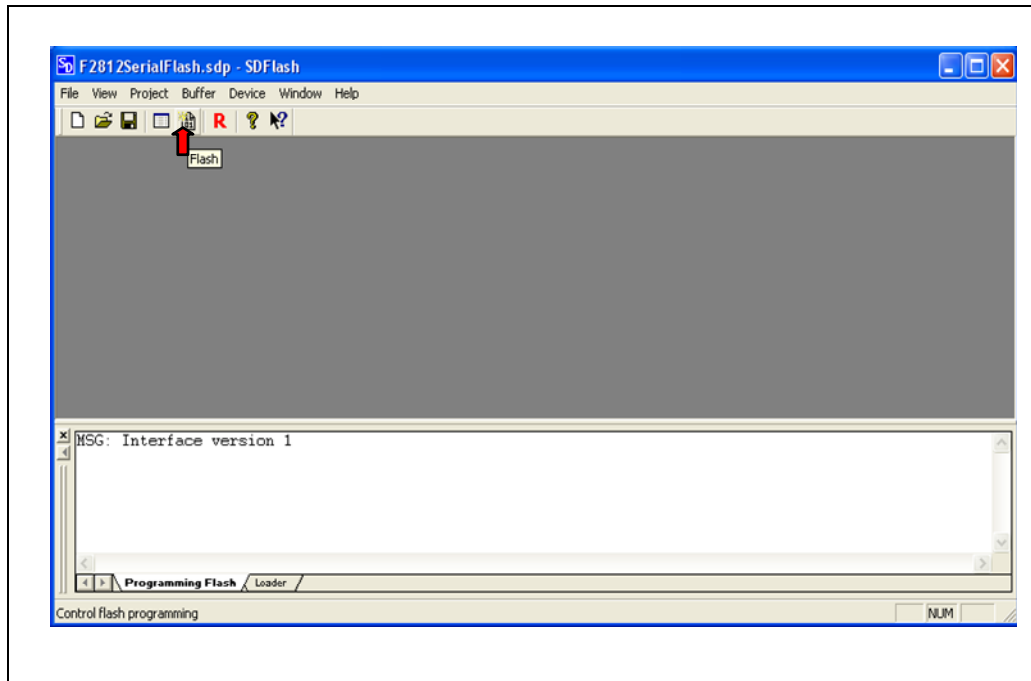

Figure 13: Select Flash Icon
5. Select the flash icon as shown in *Figure 13* below. The red arrow on the figure shows the location of the flash icon on the screen. Alternatively, select Device->